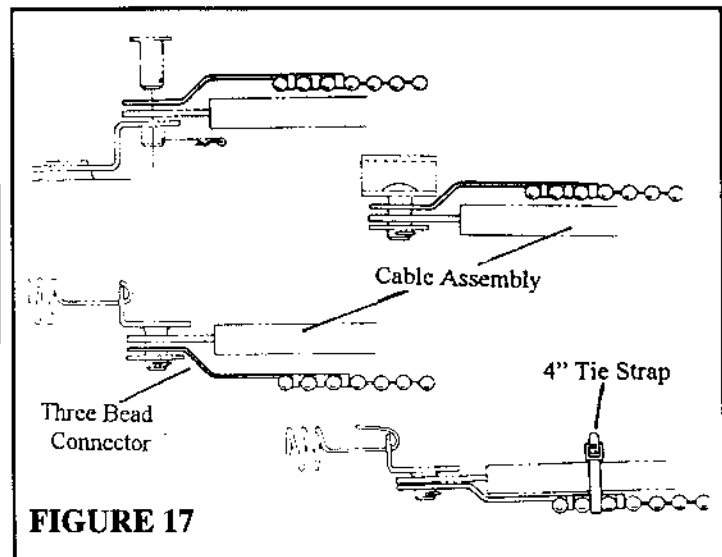

FIGURE 17
4. The **Three Bead** may need to be bent so that it clears the throttle cable. (Figure 17) Also, the **4" Tie Strap** can be used to hold the **Three Bead Connector** to the sleeve of the throttle cable. (Figure 17)